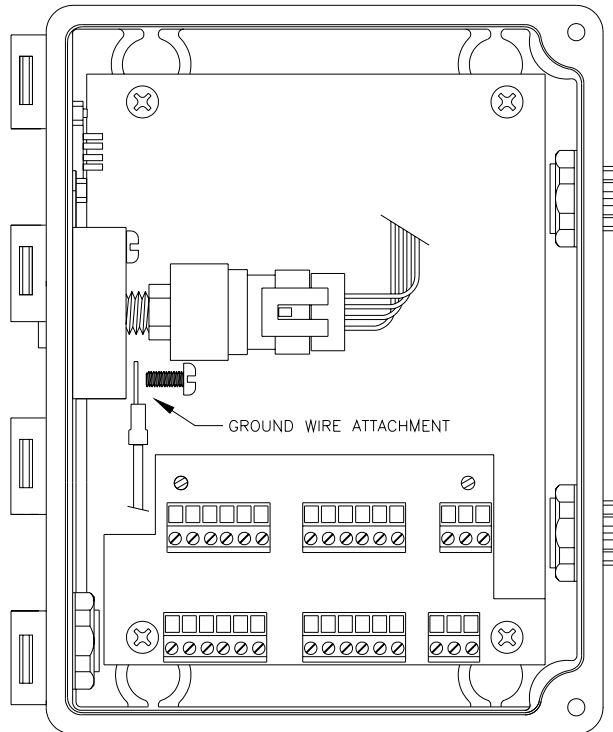

Figure-8.
- Secure the green grounding wire onto the metal mounting flange of the pressure transducer (reference Figure-8).